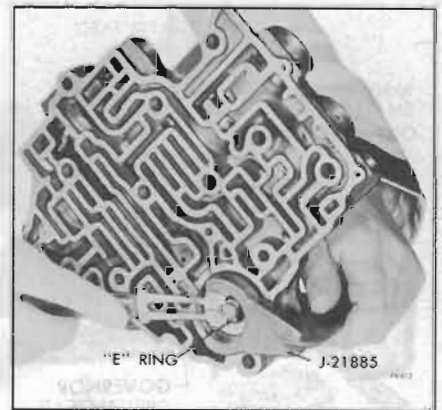

Figure 74-612
2. Install special Tool J-21885, and compress spring and piston and secure with retaining "E" ring. See Figure 74-612.